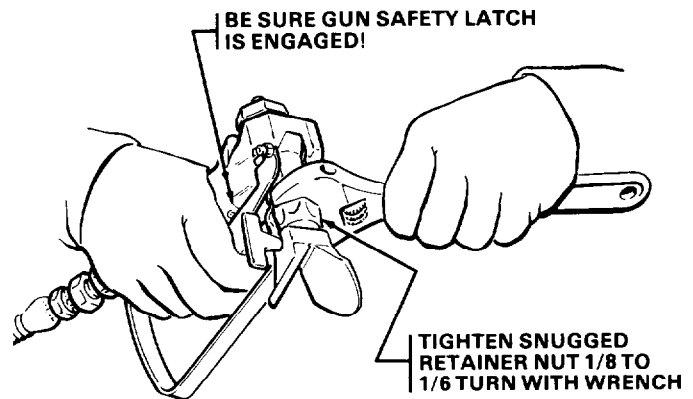

Fig 5
2. **Install the Spray Tip and Tip Guard** (Refer to Fig 5.)